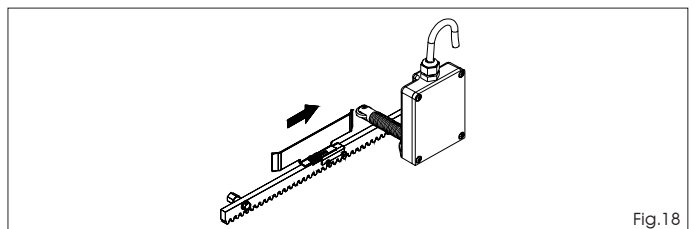

Fig. 18
- 5) Allow the plate to slide over the rack in opening direction (Fig.18). As soon as the opening limit switch LED on the control board goes off, take the plate forward by about 20-30 mm and secure it provisionally on the rack, using the supplied screws.